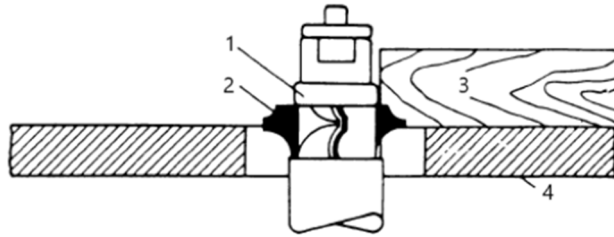

Figure 8
2. Using the collar above the cutter, figure 8, offers the advantage of the cut not being affected by slight variations in the stock's thickness. However, the cut is not visible during the operation. Another advantage is accidental lifting of the work piece will not gouge the work piece. Simply correct the mistake by repeating the operation.